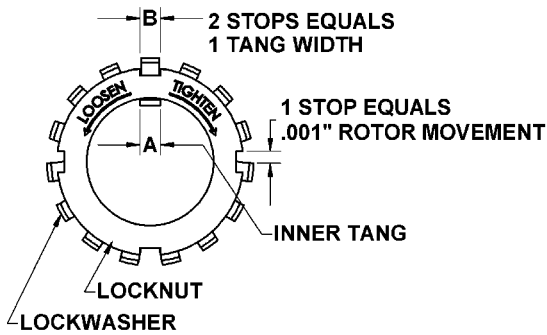

Figure 8– Locknut Assembly
7. Align the notch in stationary seat (153B) with the anti-rotation pin in the cylinder (12) and insert it into the seal recess with the polished face inward to mate with the rotating face.
8. Hand pack the ball bearing (24) with grease. Refer to "Lubrication" in the Pump Maintenance Section for the recommended grease.
9. Install the bearing (24) into the cylinder recess. The bearing balls should face outward, with the grease shield inward. Ensure that the bearing (24) is fully and squarely seated against the mechanical seal (153).
10. Keep the bearing (24) from falling out of the cylinder (12) by securing with one of the bearing cover capscrews (28) and a washer that will catch the outer ring of the bearing when tightened.
11. Turn the pump cylinder (12) over with the INTAKE port and relief valve to the **right**.
13. Insert the shaft, short end first, into the cylinder (12). Carefully slide the shaft through the installed mechanical seal (153) and bearing. Align the notch in the rotor with the drive tang on the seal jacket of the mechanical seal. Rotate the shaft to ensure the drive tangs of the mechanical seal are engaged in the notches in the rotor.
14. Install lockwasher (24B) on the shaft protruding through the bearing in the cylinder with the tangs outward. Ensure the inner tang "A" of the lockwasher is engaged in the slot in shaft threads. Bend it slightly, if necessary. (See Figure 8.)
28. With the tell-tale hole towards the bottom of the pump, carefully install the head assembly (20) over the shaft and against the cylinder (12). Use care not to damage the mechanical seal components. Align the drive tangs of the mechanical seal with the notches in the rotor.
29. Rotate the head (20) to engage the drive tangs of the seal jacket with the slots in the rotor.
30. Install and finger tighten the head capscrews (21). The head capscrews will be fully tightened after the second locknut is installed.
31. Install lockwasher (24B) on the shaft protruding through the bearing in the head with the tangs outward. Ensure the inner tang "A" of the lockwasher is engaged in the slot in shaft threads. Bend it slightly, if necessary. (See Figure 8.)
It is important that the bearing locknuts (24A) and lockwashers (24B) be installed and adjusted properly. Overtightening locknuts can cause bearing failure or a broken lockwasher tang. Loose locknuts will allow the rotor to shift against the discs (71), causing wear. See Figure 8.
38. Tighten both locknuts (24B) to ensure that the bearings (24) are bottomed in the head recess. **DO NOT** overtighten and bend or shear the lockwasher inner tang.
42. Tighten the opposite locknut (24A) by hand until it is snug against the bearing (24). Then, using a spanner wrench, tighten the nut the width of one lockwasher tang "B". Tighten just past the desired tang, then back off the nut to align the tang with the locknut slot. Secure the nut by bending the aligned lockwasher tang into the slot in the locknut. The pump should continue to turn freely when rotated by hand.
44. Attach the new bearing cover gasket (26) and the bearing cover (27) to the non-driven side of pump with the grease fitting (76) upward. Install and tighten the bearing cover capscrews (28), torquing to 15 lbs ft (20 Nm).
45. Inspect the grease seal (104) in the foot bracket for wear or damage and replace as required. Grease the outside diameter of the grease seal (104) and push it into the bracket (108 or 108B) with the lip inward.